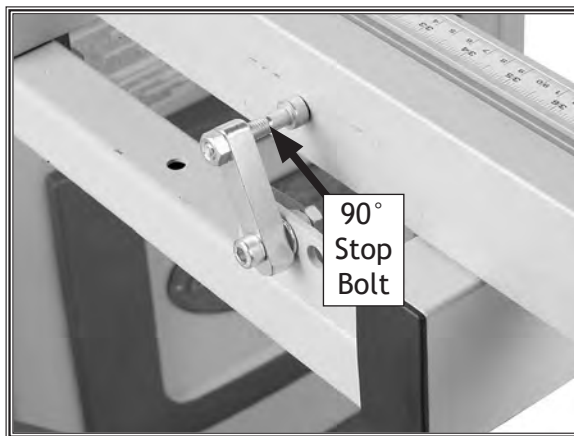

Figure 127. Crosscut fence adjustment cam.
1. Make sure the blade is parallel with the sliding table and that the crosscut fence is resting against the 90° stop bolt (see **Figure 127** for locations).
6. Loosen the hex nut on the 90° stop bolt shown in **Figure 127**, and rotate the 90° stop bolt to square the crosscut fence.